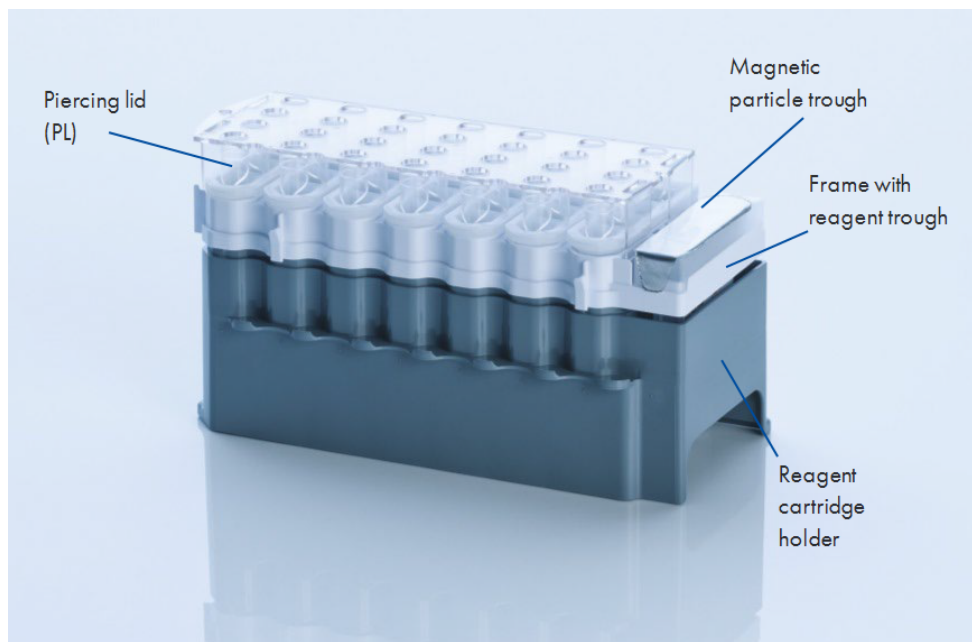

Figure 3. QIAasympy reagent cartridge (RC). The RC contains all reagents required for the protocol run.
Reagents for purification of DNA are contained in an innovative RC (Figure 3). Each trough of the RC contains a particular reagent, such as magnetic particles, binding buffer, wash buffer, or elution buffer. Partially used RCs can be reclosed with Reuse Seal Strips (RSS) for later reuse, which avoids generation of waste due to leftover reagents at the end of the purification procedure.
Place the RC into the reagent cartridge holder. Before using an RC for the first time, place the piercing lid (PL) on top of the RC (Figure 3).